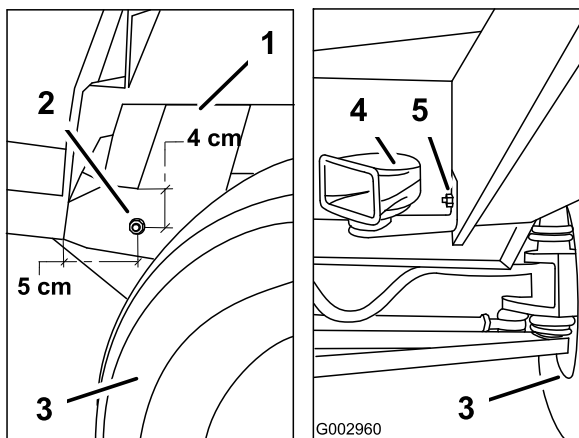

Figure 28
1. Drill a hole, 8.5 mm (11/32 inch) in diameter, in the vehicle frame under the floorboard. The hole should be 4 cm (1-1/2 inches) down from the frame top and 5 cm (2 inches) from the front of the frame (Figure 28).
2. Secure the horn to the frame using a bolt (5/16 x 3/4 inch) and a locknut (5/16 inch) as shown in Figure 28.